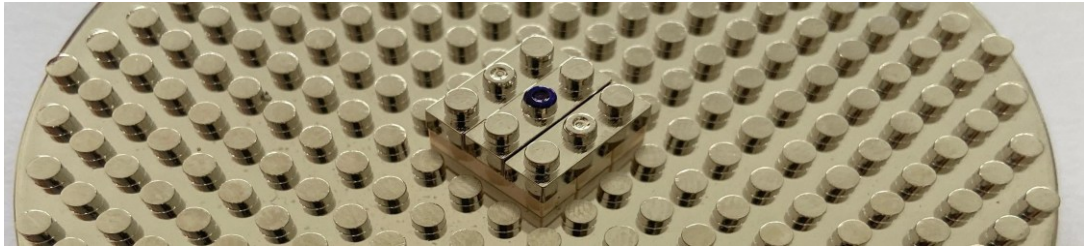

Figure 19 Connection of the two metal cells in both sides of the feed metal cell
16. Connect the 1X3 cells at each side of the feed cell. Connect other 1X3 metal cells to build the antenna as shown in Figure 19.